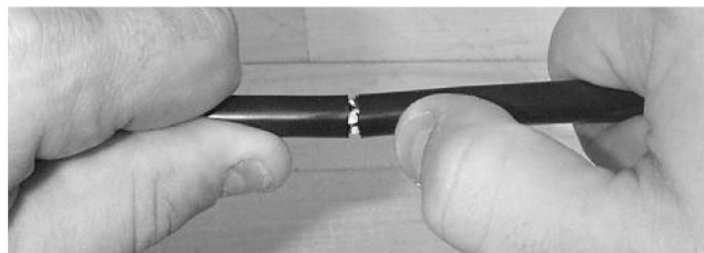

Figure 18 . Flex the cable at the score mark to separate the outer sheath
5.3 Using a circular motion, gently flex the cable at the score mark to separate the outer sheath (Figure 18). Be careful not to breach the minimum bend diameter of the cable.